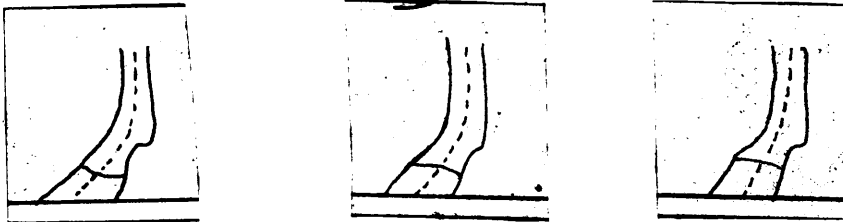

Figure 2.
2. Observe from the side of the horse to see if the foot is sloping (Figure 2). (a), regular, (b) , or stumpy (c)
If the foot is stumpy, cut as much as possible off the heel without damaging the foot. If the foot is sloping, cut as much off the front of the foot as possible. Sloping, stumpy, and regular hoofs are shown in Figure 2. If the toes point in, cut as much from the inside as possible. If the toes point out cut as much from the outside as possible. Figure 1 shows the straight, pointed in, and pointed out toe. This operation is very important in the shoeing of a horse, since many faults can be corrected in the shaping of the foot.